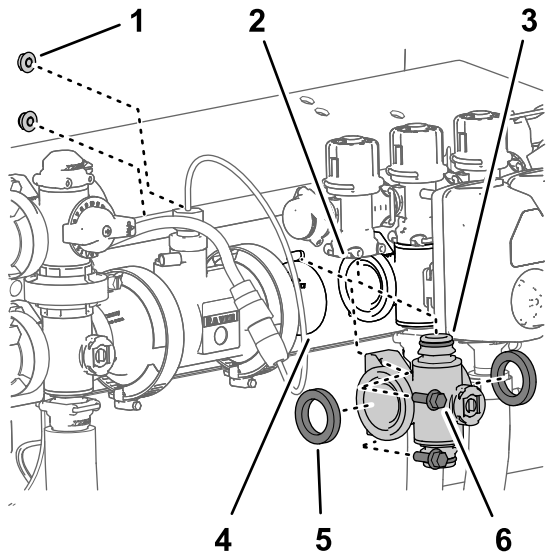

Figure 110
4. For left or right section-valve manifolds, remove the 2 flange-head bolts (1/4 x 3/4 inch) and 2 flange locknuts (1/4 inch) that secure the section-valve manifold to the valve support (Figure 110).
5. Move the section-valve manifold and gaskets down to clear the section-bypass valve and then away from the machine (Figure 110).